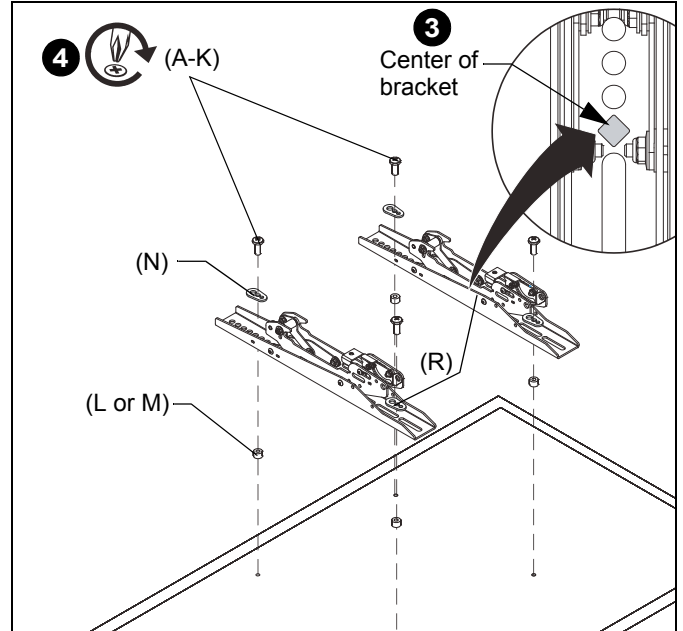

Figure 20
3. Align the center of the interface bracket (R) with center of screen. (See Figure 20)
4. Select correct screws, spacers (if necessary) and universal washers from the hardware bag (A-N) and attach brackets (R) to back of screen. (See Figure 20)